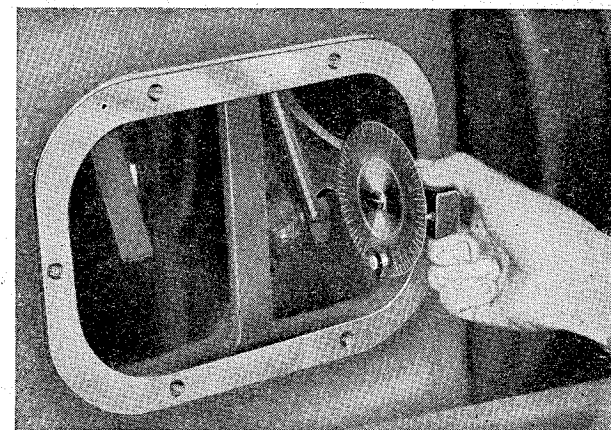

Fig. 42.
8. Using the starting crank, crank the engine until fuel is delivered to the capillary tube and check the fuel level in the tube during the cranking procedure; if the level moves, stop cranking and, using the protractor 4453.90 installed on the machined face of the crankshaft, check the angle of the injection commencement which should be set to 30° before top dead centre (see Fig. 42).